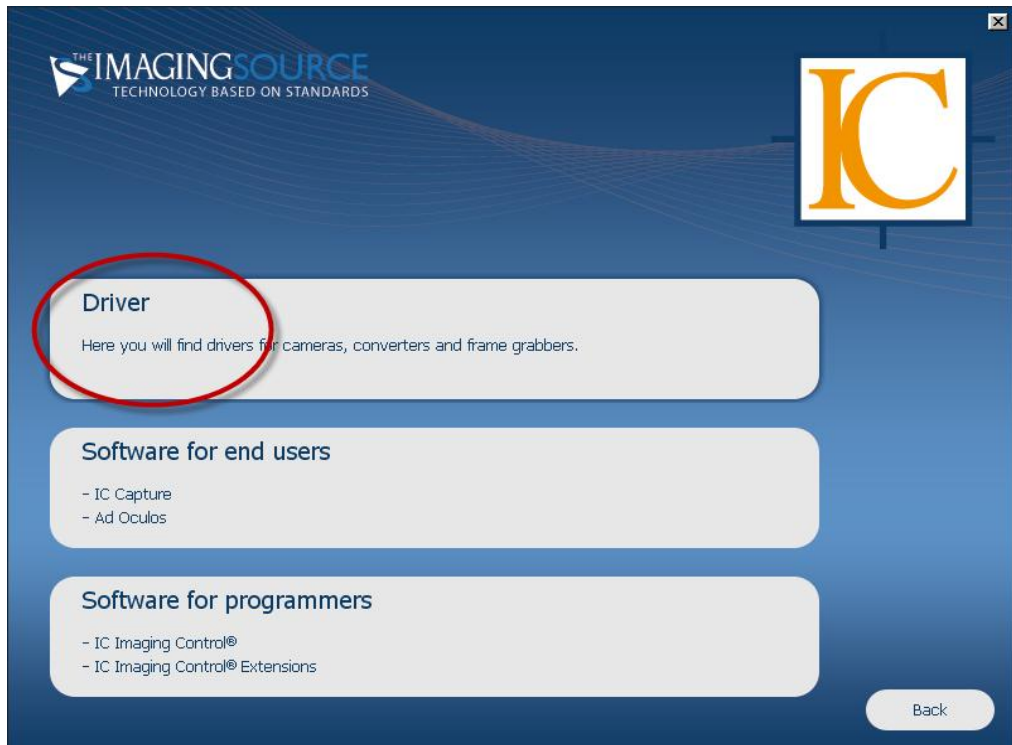

Fig. 5-13
3. A menu of software available for installation will be displayed. For drivers of the video camera, select **Driver** (Fig. 5-13).